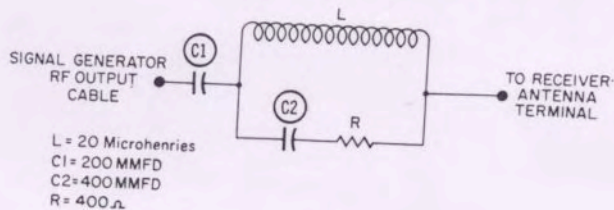

Figure 1
3. RF section - The Precision E-75 RF cable must now be connected to the antenna post, and the ground lead attached to the receiver ground terminal or chassis. (See 2 above - "Oscillator section" - for receivers using a loop antenna.) In general practice, it is good to connect an all-wave dummy antenna between the generator and the receiver. (See Figure 1.)